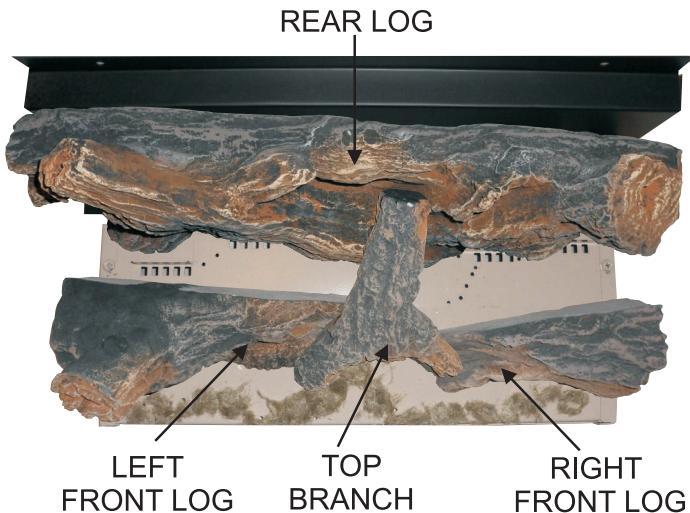

Figure 25 - Log Placement - Top View (DVP20CC Shown)
5. Place ember material on front burner ports as shown in **Figure 25**.
\*Place ember material on front burner ports as shown in **Figure 25**.